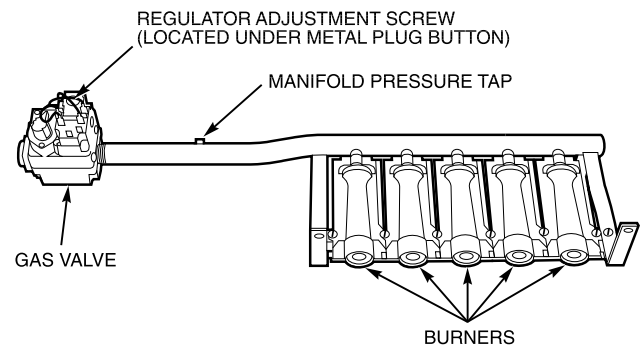

Fig. 34 — Burner Tray Details
10. Slide the burner tray out of the unit (see Fig. 34).